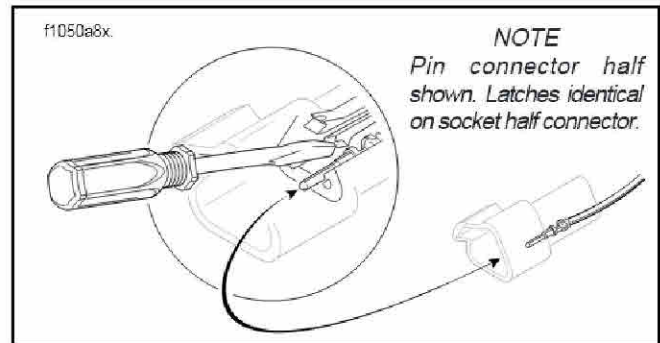
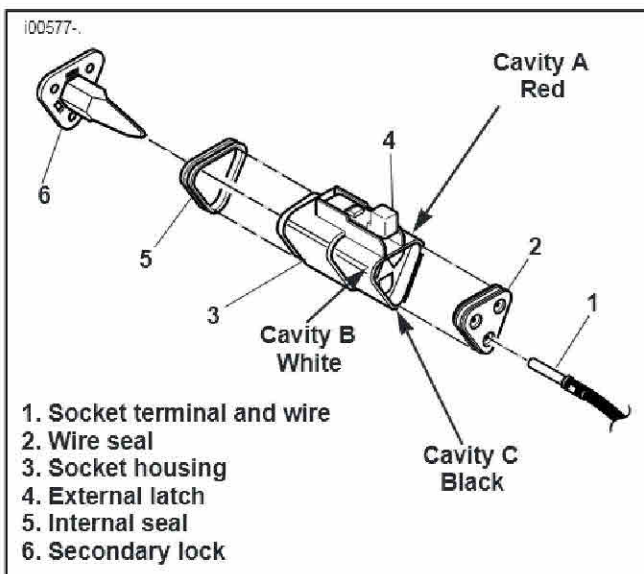

Figure 6. Depressing Terminal Latches
Figure 5. 3-Place Deutsch Socket Connector
10. See Figure 5. Depress external latch (4) and unplug the 3-place connector.
11. Remove the secondary locking wedge (6) as follows: Insert the blade of a small screwdriver between the socket housing (3) and locking wedge (6) inline with the socket holes. Turn the screwdriver 90 degrees to pop the wedge up.
12. See Figure 6. Gently depress terminal latches inside socket housing and back out sockets through holes in rear wire seal. Cavity letters and wire colors are shown in Figure 5. Cavity letters are molded in the housing.
- Route speedometer 3-wire harness back to its original position. See Figure 5. Insert wires and terminals into 3-place connector.